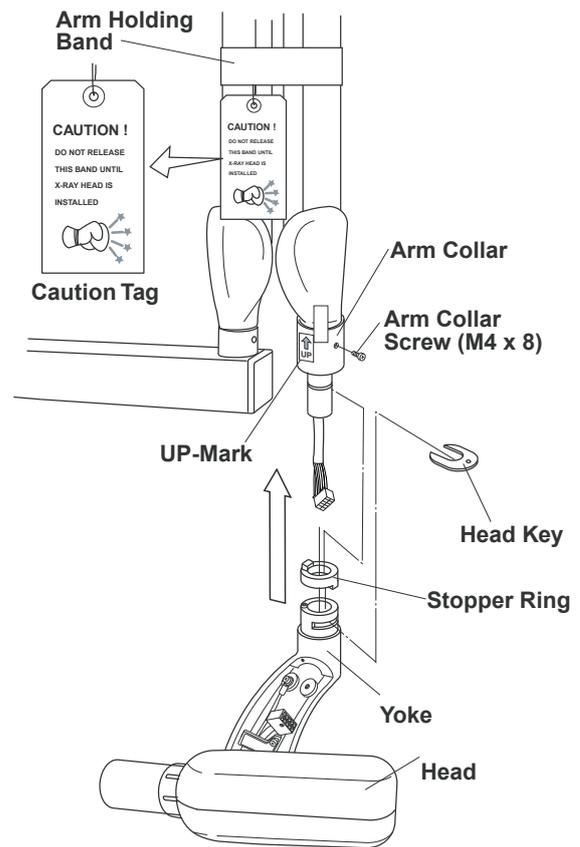

Fig.3-17 X-ray Head Installation
3. Making sure the stopper ring is placed on the yoke, insert the wiring from the balance arm assembly through the head shaft and into the yoke. (Fig.3-17)
4. Insert the shaft of the balance arm into the head yoke, and while holding the head in position, insert the head key securely into the retaining groove. (Fig.3-17)
5. Remove adhesive tape and slide the arm collar downward. Fix it in place with the arm collar screw. Remove the UP-mark from the arm collar. (Fig.3-17)